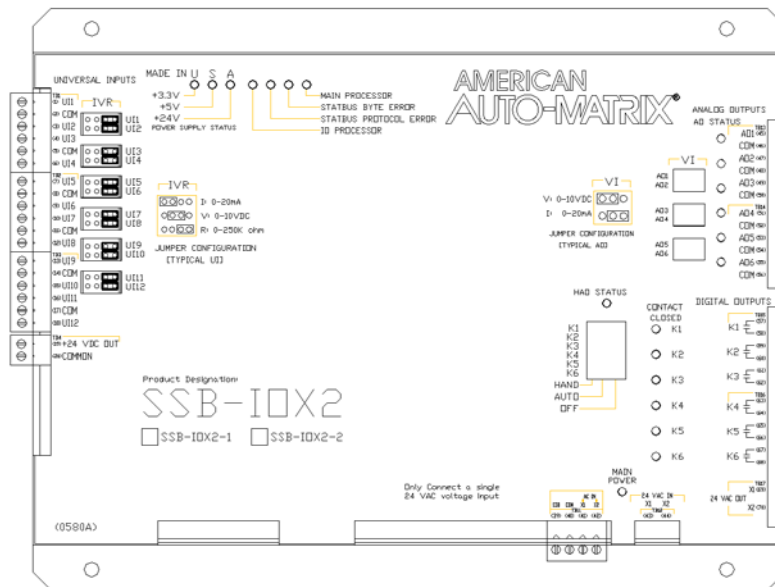

Figure 5-61 : The SSB-IOX2-2 Module
The SSB-IOX2-2, shown in Figure 5-61, is a STATbus module based on the same hardware as the GPC1 controller. It provides twelve (12) universal inputs.